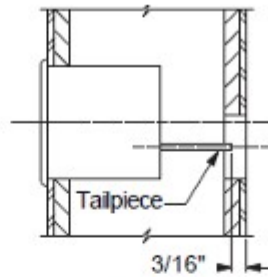

Figure 1
4. Install cylinder if used. If required, cut tailpiece (Figure 1). Cylinder screw heads must be flush with door surface.